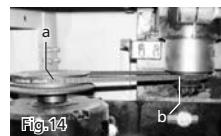

Fig.14
This shaper is constructed with a 3 step pulley on both the motor pulley (Fig.14-A) and on the spindle pulley (B).